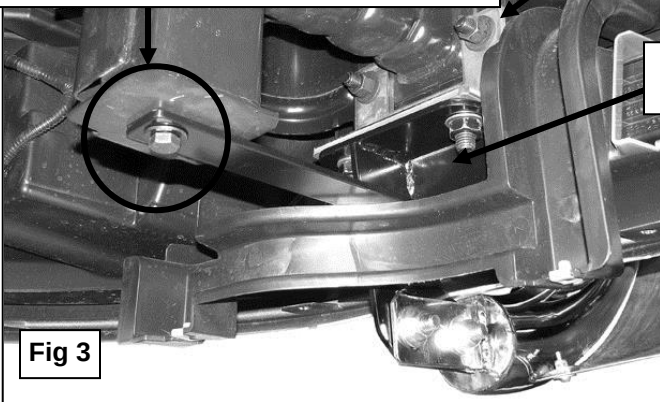

Fig 3
- Select one of the Upper Frame Brackets and the driver side Lower Frame Mounting Bracket. Bolt the two together with (2) 12mm Flat Washers, (2) 12mm Lock Washers and (2) 12mm Hex Nuts. **NOTE:** On some vehicles, it may be easier to assemble the two-piece bracket on the vehicle, (**Figure 3**). Snug the hardware but do not tighten at this time.
5. With help, position the Bull Bar on the inside of the Mounting Brackets. Use the included (4) 12-1.75mm x 35mm Hex Head Bolts, (4) 12mm Lock Washers, (8) 12mm Flat Washers, and (4) 12-1.75mm Hex Nuts to attach the Bull Bar to the Mounting Brackets, **(Figure 3)**. Snug but do not tighten hardware.